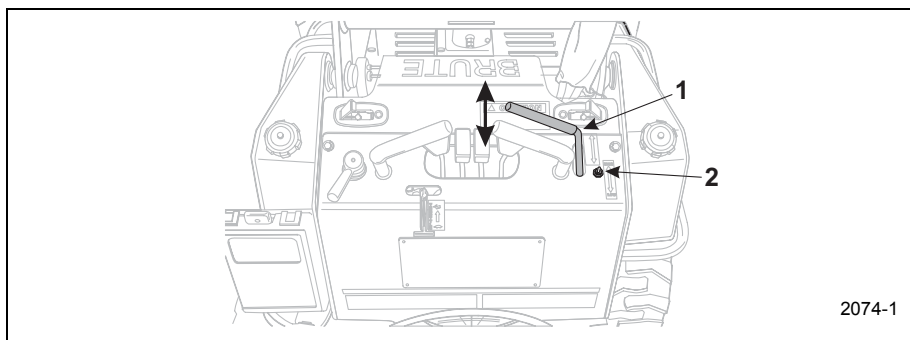

Figure 3–32 Auxiliary Attachment Controls
2. Set the HIGH/LOW switch (Item 2, Figure 3–32) to the HIGH position before activating the AUXILIARY control lever. If this switch is not set properly, the auxiliary hydraulics and travel controls will not function properly.
3. With your right hand, squeeze the AUXILIARY attachment control lever (Item 1, Figure 3–32) towards the hand hold to activate the attachment in the FORWARD motion.
5. If you want to reverse the operation of the attachment, move the auxiliary control lever (Item 1, Figure 3–32) to the REVERSE position. The control lever will remain in the REVERSE position detent until it is moved to the NEUTRAL position.